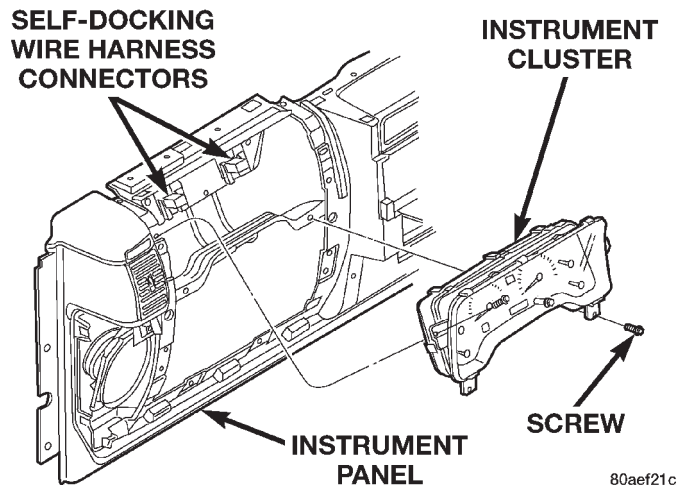

Fig. 9 Instrument Cluster Remove/Install
- (1) Disconnect and isolate the battery negative cable.
- (2) Remove the cluster bezel from the instrument panel. Refer to **Cluster Bezel** in the Removal and Installation section of this group for the procedures.
- (3) Remove the four screws that secure the instrument cluster to the instrument panel (Fig. 9).